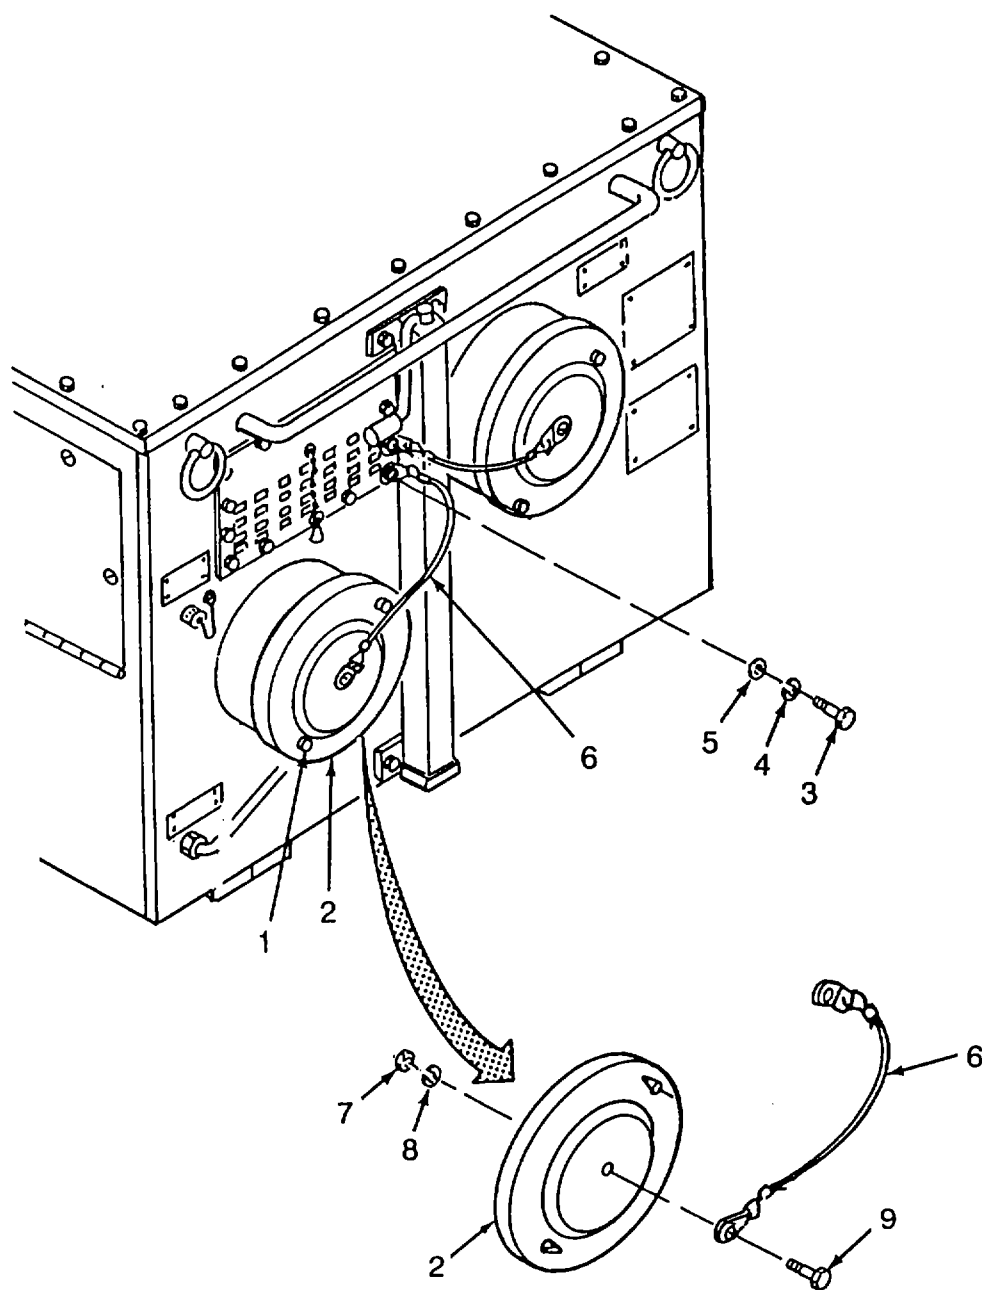

Figure 4-24. Duct Cover Assembly
- a. Removal (Refer to Figure 4-24)
- (1) Loosen two screws (1) and remove duct cover (2).
- (2) Remove screw (3), lockwasher (4), flat washer (5), and cable (6). Discard lockwasher.
- (1) Repair of duct cover assembly is limited to replacement of damaged parts.
- (2) If cable assembly (6) is damaged, fabricate new cable assembly (Item 58, App F).
- (3) Remove locknut (7), flat washer (8), screw (9), and cable assembly (6) from cover (2).
- (4) Attach cable assembly (6) on cover (2) using screw (9), flat washer (8) and locknut (7).
- d. Installation (Refer to Figure 4-24)
- (1) Apply anti-seizing compound (Item 3, App E) to screw (3). Install cable (6), screw (3), flat washer (4), and lockwasher (5).
- (2) Align duct cover (2) so two screws (1) protrude through cover.
- (3) Install duct cover (2) and tighten two screws (1).